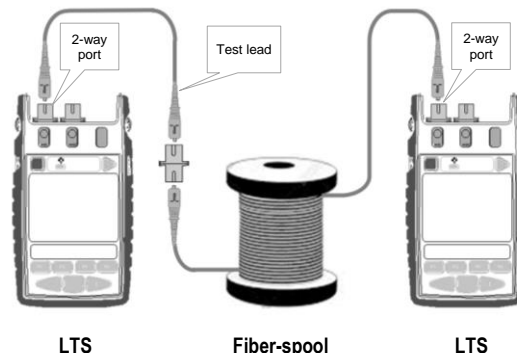

Figure 15B. Test set up for length measurement accuracy verification
3. Disconnect one end of the test lead, reconnect it to a fiber spool (SMF or MMF as appropriate with expected length) via a thru adaptor and, connect the other end of fiber-spool to the other LTS, see Figure 15B.